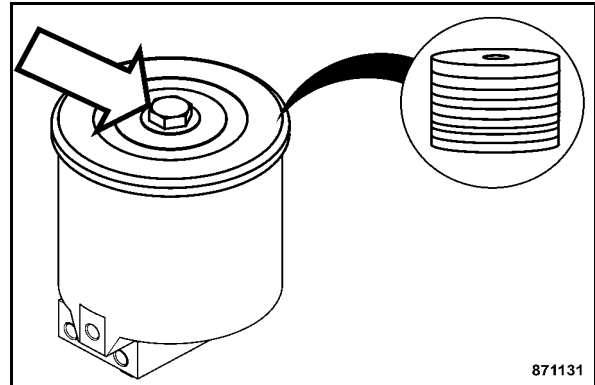

Fig. 153
- Unscrew the fastening screws (Fig. 153) and take off the cover.